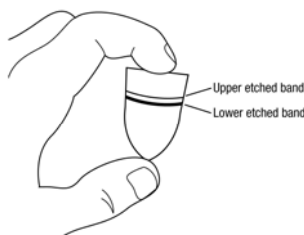

Fig. 8
3. Holding the air flow indicator as shown in Fig. 8, locate the two (lower and upper) etched circular bands.